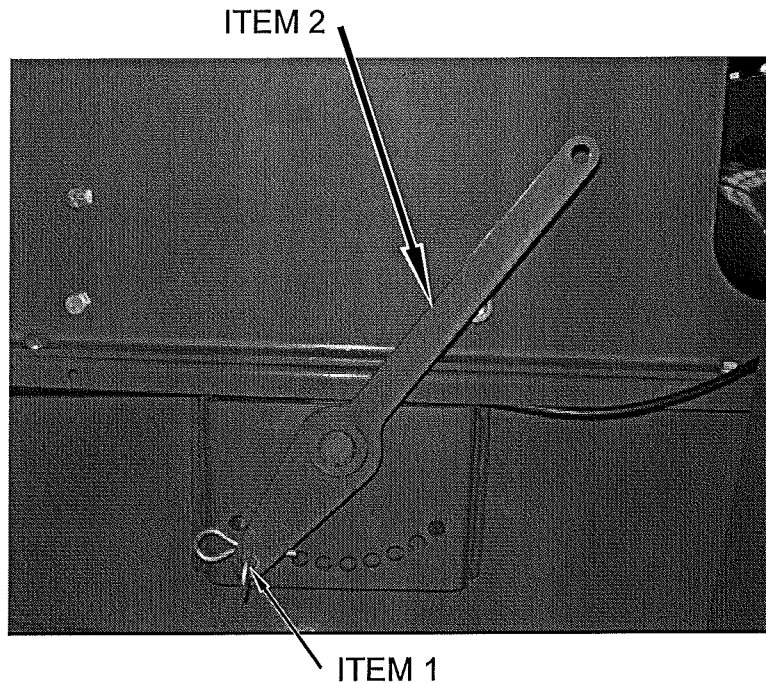

Fig 10.7
There are two mounting positions, and a single assembly can be mounted in either position, or two assemblies can be fitted. The blocks can be adjusted for angle, in relationship to the stars by means of a quadrant plate fix to the end of the rail (Fig 10.7).
Adjustment is made by removing the retaining pin (Fig 10.7 item 1) from the quadrant and rotating the assembly to the required position using the handle fixed to the rail (Fig 10.7 item 2). Refit the pin in the appropriate hole in the quadrant plate.